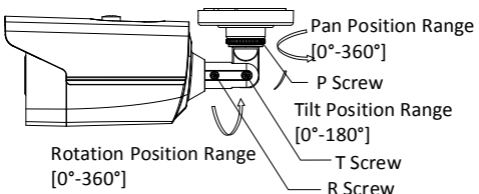

Figure 2-7 3-axis Adjustment
- Adjust the camera according to Figure 2-7 to get an optimum angle.